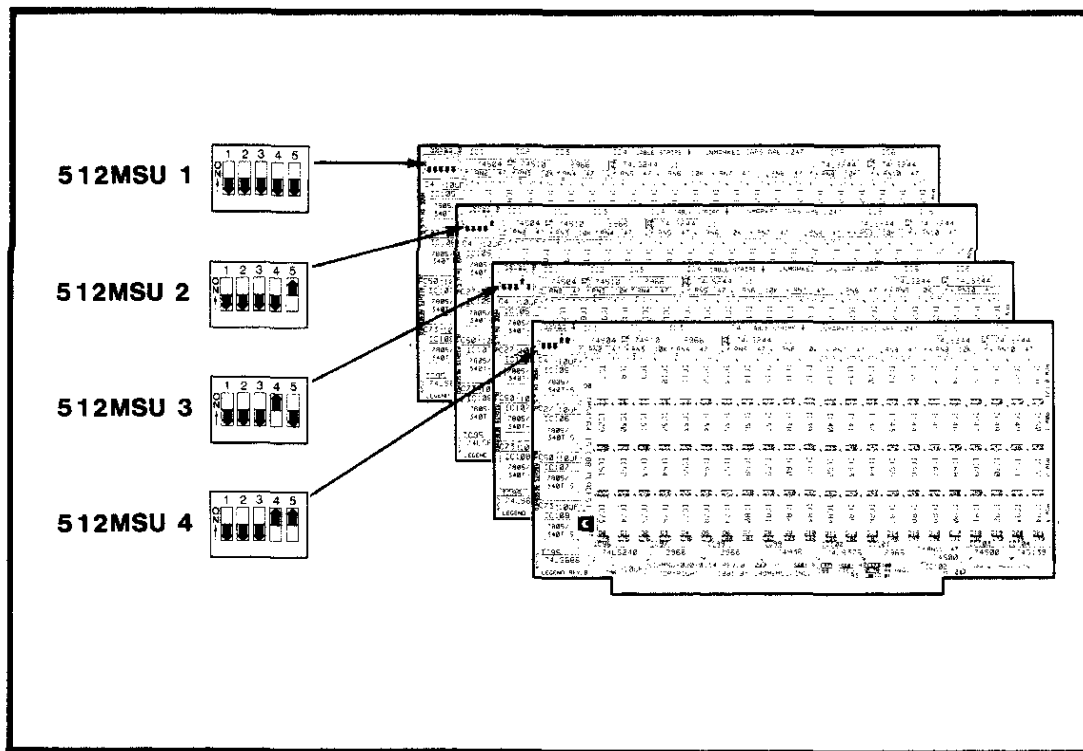

Figure F-7: SWITCH SETTINGS FOR 512MSU BOARD
**512MSU Board** - This is a Memory Storage Unit with 512K bytes of error-correcting memory. This board comes with models CS-3D5E and CS-3HD5E. All switches on a single 512MSU board should be OFF. If more than one 512MSU board is used, the switches should be set according to Figure F-7. Use of the 512MSU board requires the MCU board described as follows.